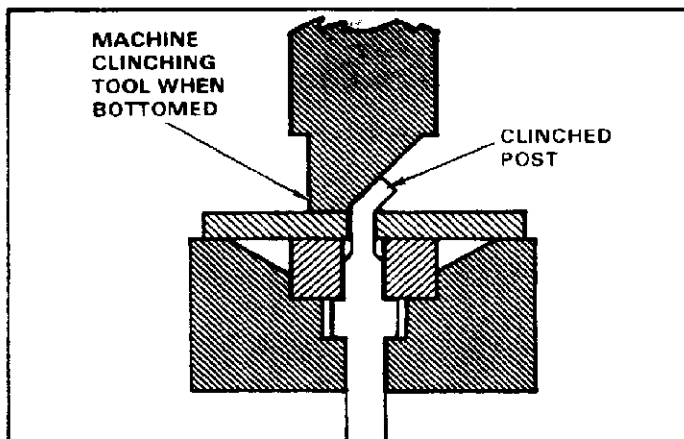

Fig. 4
5. Actuate press until clinching tool bottoms on pc board. Release pressure and remove clinched assembly from holding fixture. Check to be sure all posts are properly clinched (see Figure 4).